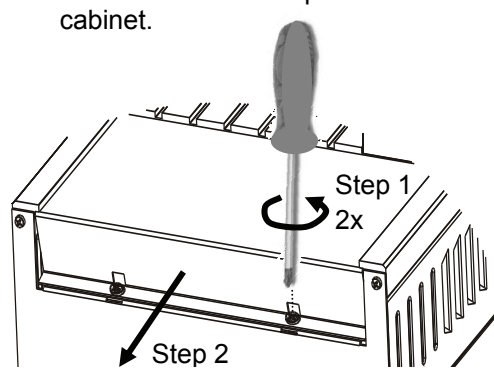

Figure 15
2. Connect the incoming shore power via a circuit breaker to the AC input (fig.15). Phase line to L, Neutral to N, and Ground to PE/GND.